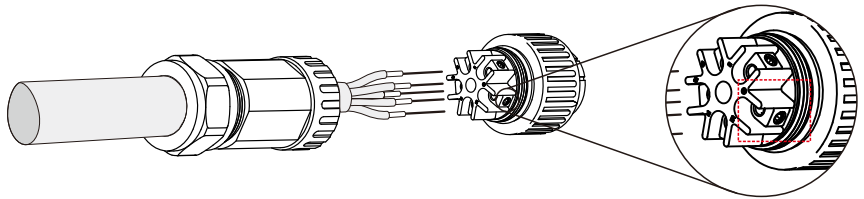

Figure 5.22 Connected cable
A) Stripped the insulation sleeve of cable for 70mm, so that bared copper-cored connector reaches for 9mm. Cable through nut and sleeve of socket element, insert corresponding terminals and tighten with allen wrench (see figure 5.22).
Tighten cable with 3.0 mm allen wrench(focus in dotted box, see figure 5.22). Allen screw is easy to drop off, don't screw out completely.